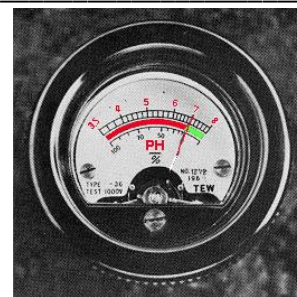

Fig. 1
1. Take the instrument out of its case and check that the needle indicates pH 7 (fig.1). If this is not the case it can be very simple adjusted. Remove the cover and glass window from the instrument and carefully turn the adjusting screw clockwise or counter-clockwise, as the case may be.